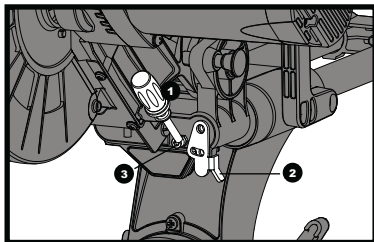

Fig 27
- 2) While holding the upper arm in that position, turn the stop knob (1) until it touches the stop plate (2).
- 3) Recheck the blade depth by moving the cutting head front to back through the full motion of a typical cut along the control arm. (See fig. 27)
- 1) Loosen the depth control screw locknut (3).
- 4) Recheck the blade depth by moving the cutting head front to back through the full motion of a cut along the control arm. If the blade touches the inside of the control arm, readjust the setting. Tighten the locknut when the correct setting is achieved.(See fig. 27)